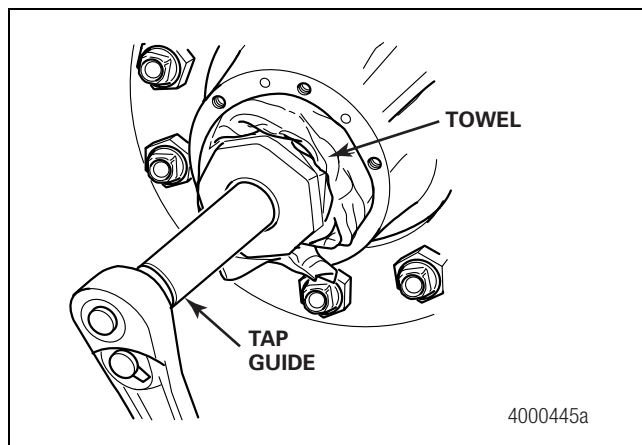

Figure 2.38
12. Install the tap guide onto the axle spindle. Tap the axle spindle with a 1/4-inch NPT tap. Use tapping lubricant. Figure 2.38. Refer to Section 8 for the solid spindle tap guide part number.